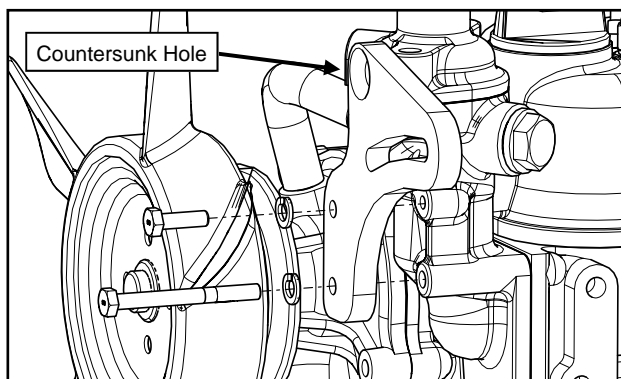

Fig. 2.3 (Upper Alternator Bracket & Hardware)
2.7 Torque the upper alternator bracket bolts. Reference Fig. 2.3 on previous page.